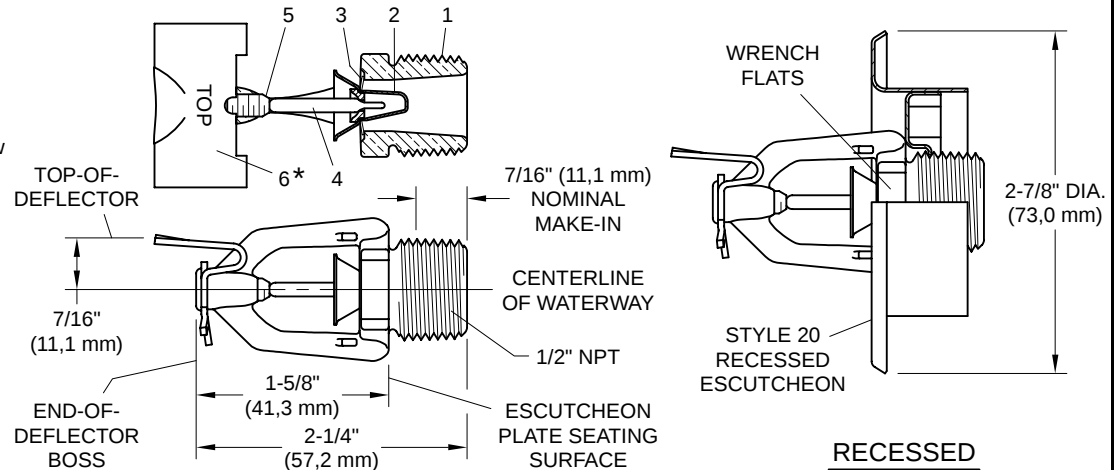
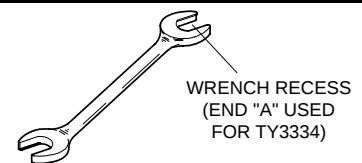
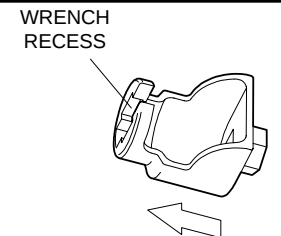

FIGURE 1
FIGURE 3
FIGURE 4
Step 3. Tighten the sprinkler into the sprinkler fitting using only the W-Type 6 Sprinkler Wrench (Ref. Figure 3). With reference to Figure 1, the W-Type
Step C. Tighten the sprinkler into the sprinkler fitting using only the W-Type 7 Recessed Sprinkler Wrench (Ref. Figure 4). With reference to Figure 1, the W-Type 7 Recessed Sprinkler Wrench is to be applied to the sprinkler wrench flats.